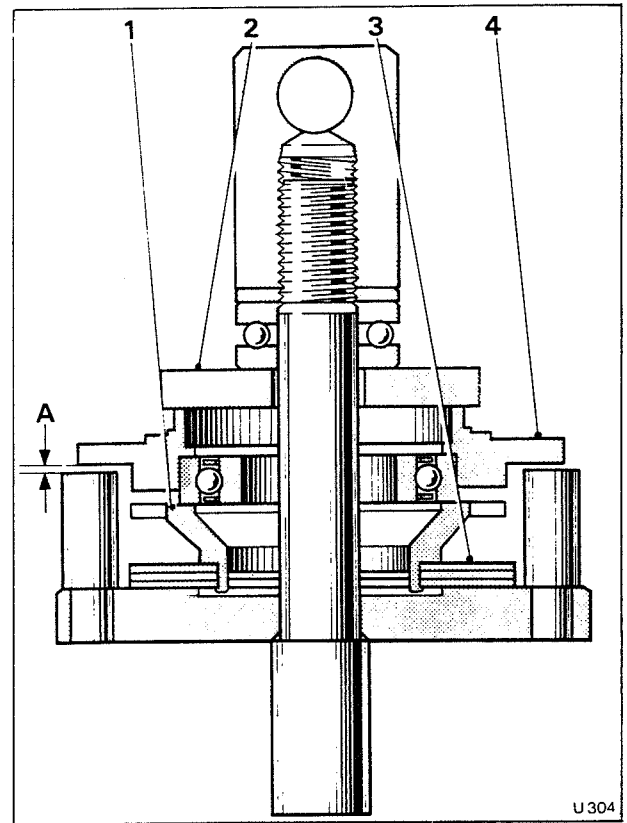

Fig. J11m Belleville washer setting
22. Place the housing, distance piece and Belleville washers in the checking jig (RH 9578) and tighten the jig end pieces until the Belleville washers are flat (see Fig. J11m).